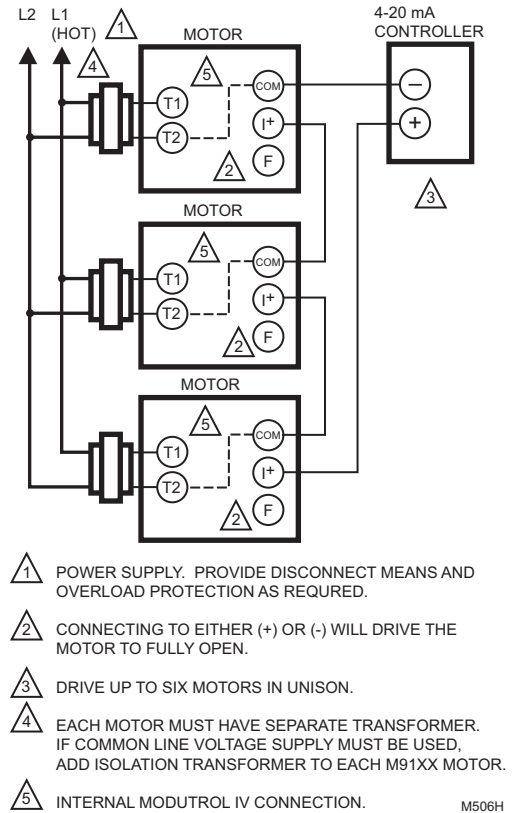

Fig. 7. Typical wiring diagram for Q7230A Interface Module and M91XXX Modutrol IV Motor with 4-20 mA controller.
4. See Fig. 7 and 8 for typical system wiring.